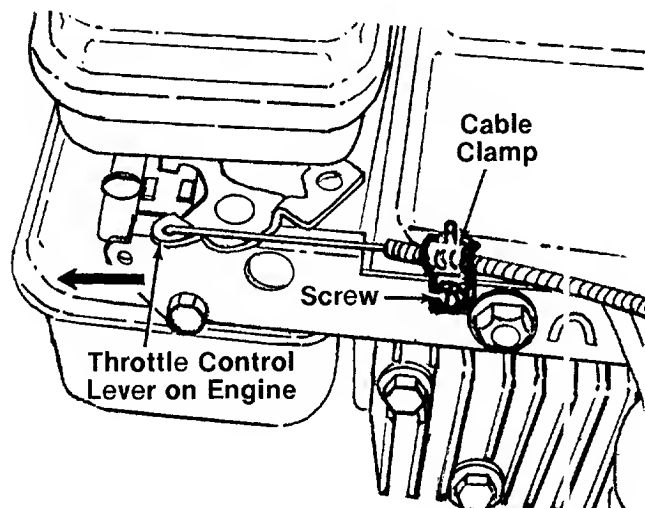

FIGURE 8.
11. Push the throttle control lever on the engine to the full open position (as far toward the outside of the unit as it will go) as shown in figure 8.
13. Remove the screw on the cable clamp shown in figure 8. Slip the control casing under the clamp. With the throttle lever on the engine still in the full open position, replace and tighten the screw to secure the throttle control cable.